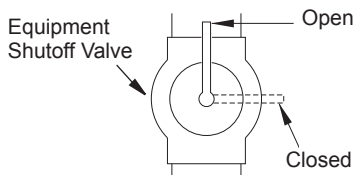

Figure 6 - Equipment Shutoff Valve
1. Close equipment shutoff valve (see Figure 6).